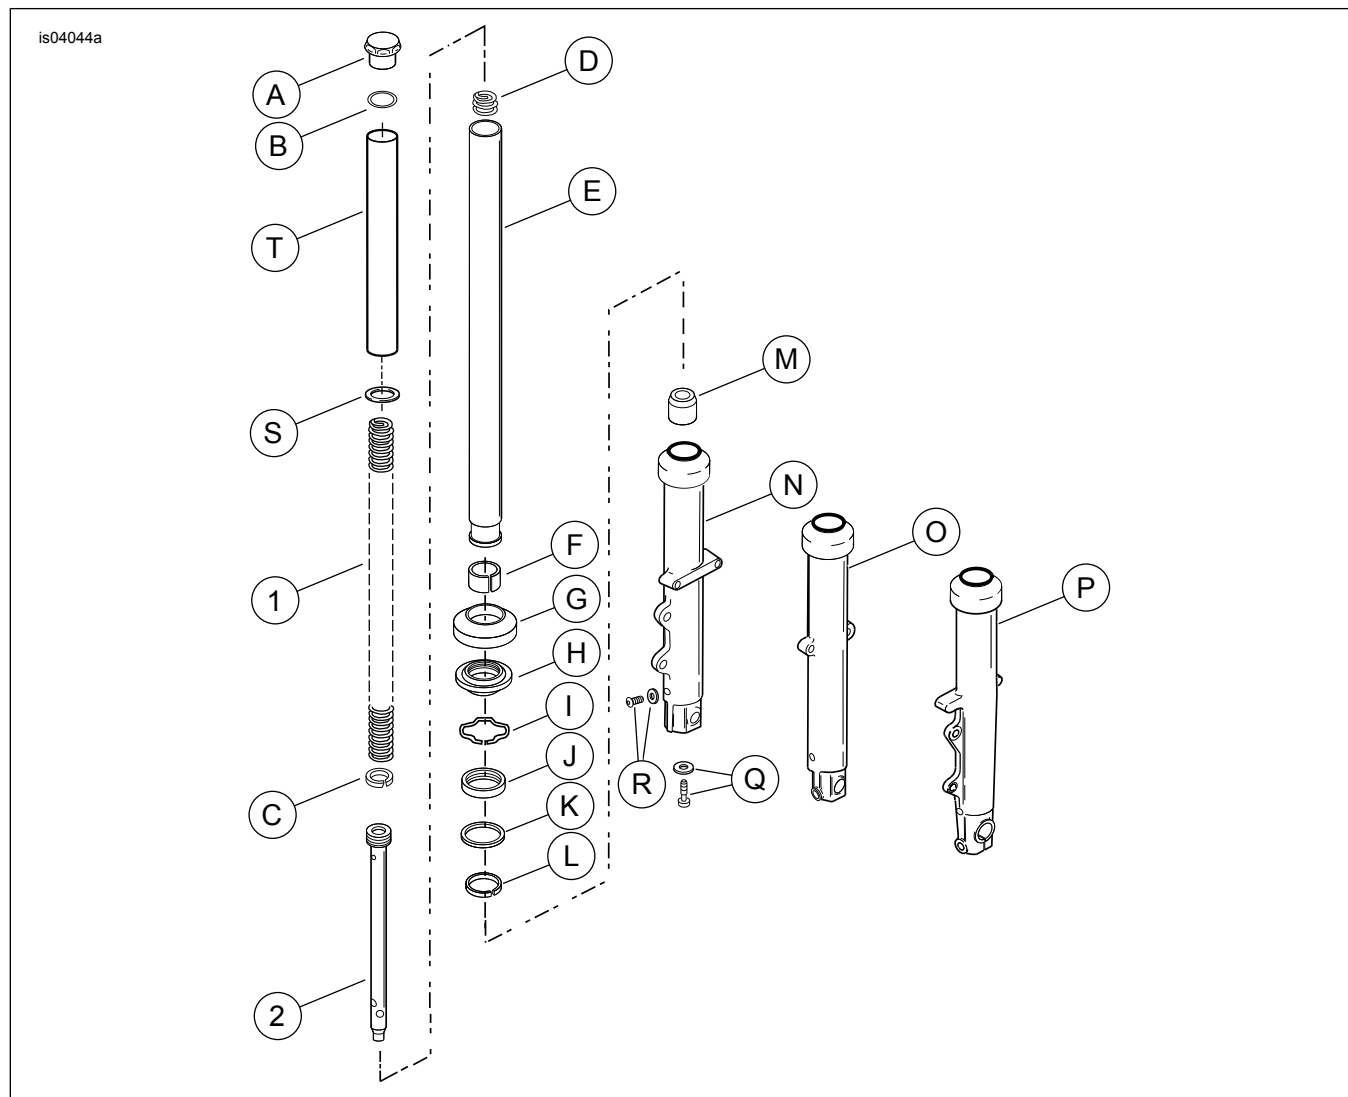

Figure 8. Service Parts for XL Front End Lowering Kit (45500-09)
See Figure 8 and Table 1.
2. See Figure 8. Place a drain pan under fork and remove drain screw (R).
4. See Figure 8. Remove the spring washer (S) and spring collar (T) and save for reuse.
5. Remove the fork spring (1) from the fork tube.
6. Remove cover (G) and dust seal (H).
7. Compress internal circle clip (I). Remove clip from groove in top of slider bore.
10. Put a shop rag on the floor. Turn the fork assembly upside down and press the end of the spring against the rag. Compress the spring and remove the 6 mm screw and washer (Q) from end of fork slider (N, O or P). Use air impact wrench for best results. Discard 6 mm screw (S) and copper crush washer (R).
11. Remove fork spring (1) and damper tube (2) from fork tube. Discard fork spring.
12. Withdraw slider tube (E) from slider (N, O or P) until lower bushing (F) on slider tube contacts upper bushing (L) in slider. Use lower bushing in a slide hammer motion to gently tap out oil seal, spacer and upper bushing from slider bore.
13. Remove lower stop (M). The lower stop is in the slider (N, O or P) or on the bottom end of the damper tube (2).
1. See Figure 8. Install new lower bushing (F) in groove of slider tube (E). Expand bushing only wide enough to fit over the tube.
2. Place rebound spring (D) over damper tube. Verify that the damper tube ring (C) is installed in groove at top of new damper tube (2). Insert damper tube into slider tube (E).
3. Insert new spring (1) into slider tube (E) with the dense coil end down. Push damper tube (2) through opening at the bottom of the tube using the spring. Place the lower stop (M) over the end of the damper tube.
5. Install the screw and washer (Q) into the bottom of the slider (N, O or P). Move the slider tube through its full range of travel within the slider several times to verify proper component alignment. Then, applying downward force on the spring and tighten the screw. Tighten screw to 15–25 N·m (11–18 ft-lbs).
6. Place the upper bushing (L), spacer (K) (concave side down), oil seal (J) (lettering side up), and FORK SEAL AND BUSHING INSTALLATION TOOL (Part Number HD-36583) over slider.
8. See Figure 8. Install internal circle clip (I) into groove in top of the slider bore.
9. Install dust seal (H) and cover (G) at the top of the slider.
10. Install drain screw (R) into the lower end of the slider. Tighten the screw to 8–11 N·m (72–96 **in-lbs**).
11. Remove main spring (1) from slider tube (E).